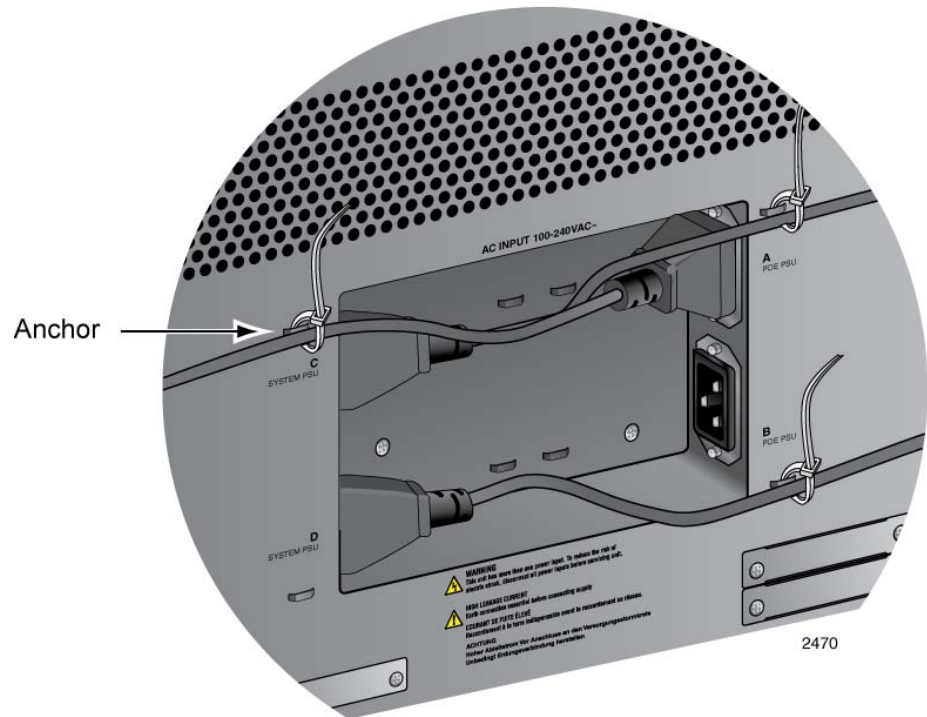

Figure 97. Securing the Power Cord for the AT-SBxPWRPOE1 Power Supply to an Anchor
3. Use the twist tie that comes with the power supply to secure the cord to an anchor on the chassis, as shown in Figure 97.